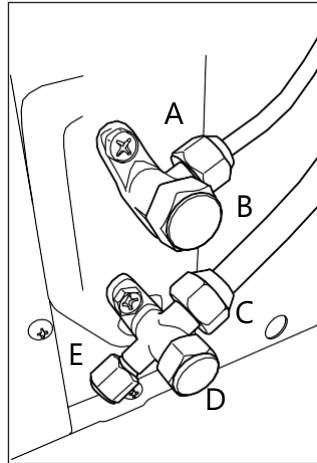

Figure 11. The connections on the outdoor unit
After connecting all the pipes, perform the following operations on the piping connections of the outdoor unit (see Figure 11):
1. Remove the service valve caps from B, D and E (see Figure 11). Note that all the valves on the outdoor unit are kept closed at this stage.
1. Fully open the liquid valve by using an Allen key and turning counter-clockwise (see Figure 11 on page 25).